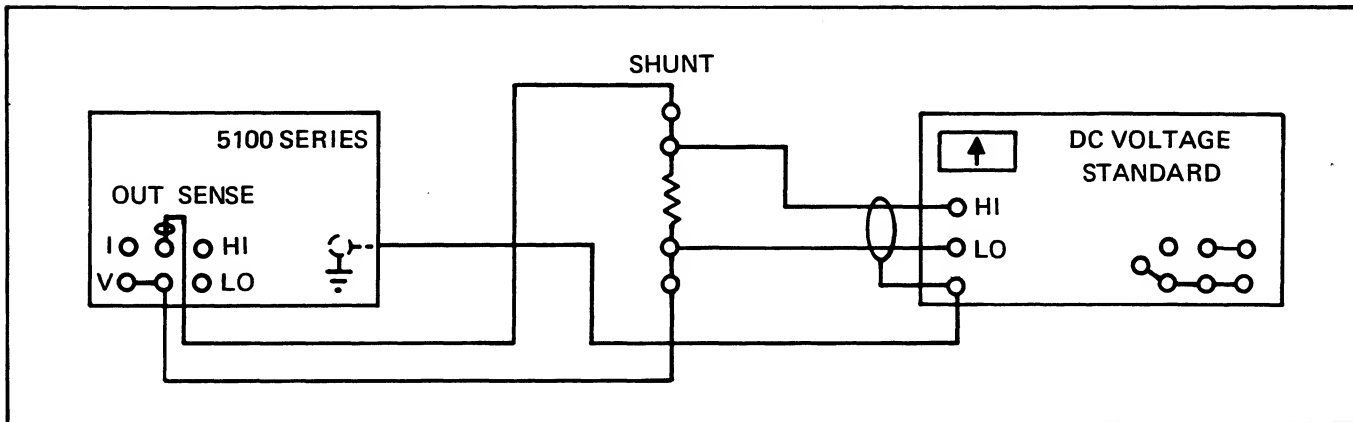

Figure 4-6. DC Current Tests
2. Connect the equipment as shown in Figure 4-6 using the 1.00000 kilohm shunt.
The DC voltage Standard, as shown in Figure 4-6, is used as a differential voltmeter in this test to obtain the added accuracy. A standard DC differential voltmeter may be substituted; however, the test equipment % of error figures in Table 4-5 must be adjusted accordingly.